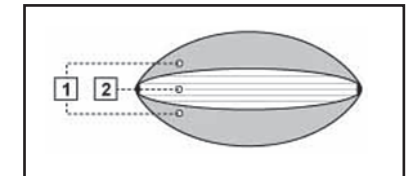

Figure 1-B
6. Inflation Sequence: Reference Figure 1-B (Right)